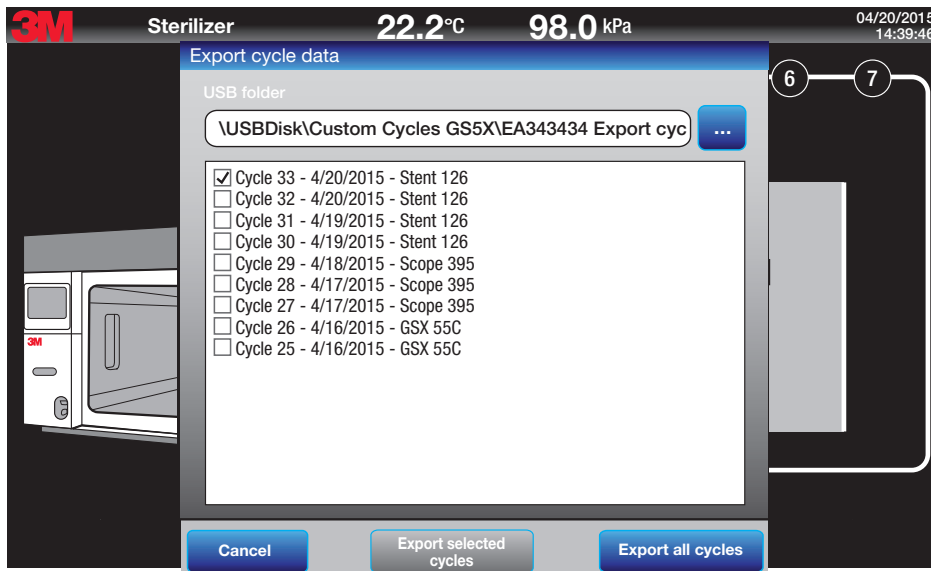

Figure 63.
7. Choose **Export selected cycles** or **Export all cycles** (Figure 63).